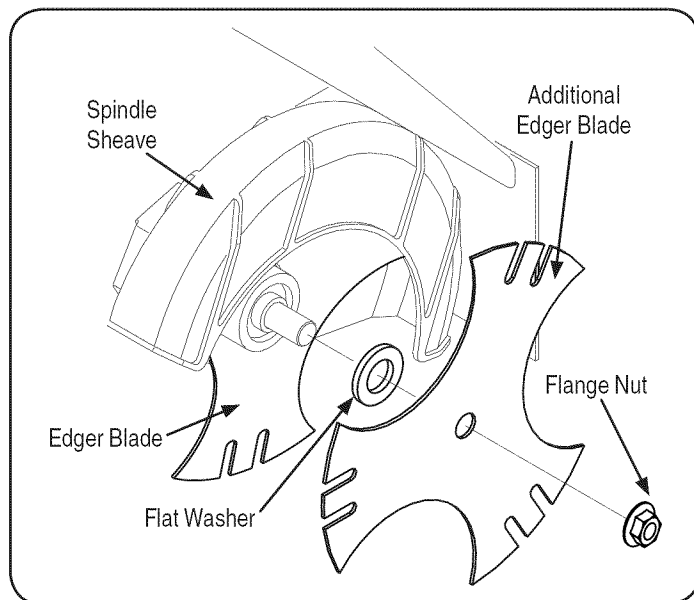

Figure 10
1. Use two wrenches (one wrench to prevent hex bolt head from spinning and the other to unthread the flange nut) to remove flange nut that secures edger blade, leaving the edger blade in place. See Figure 10.
2. Install the additional edger blade supplied with your machine and the flat washer. See Figure 10.